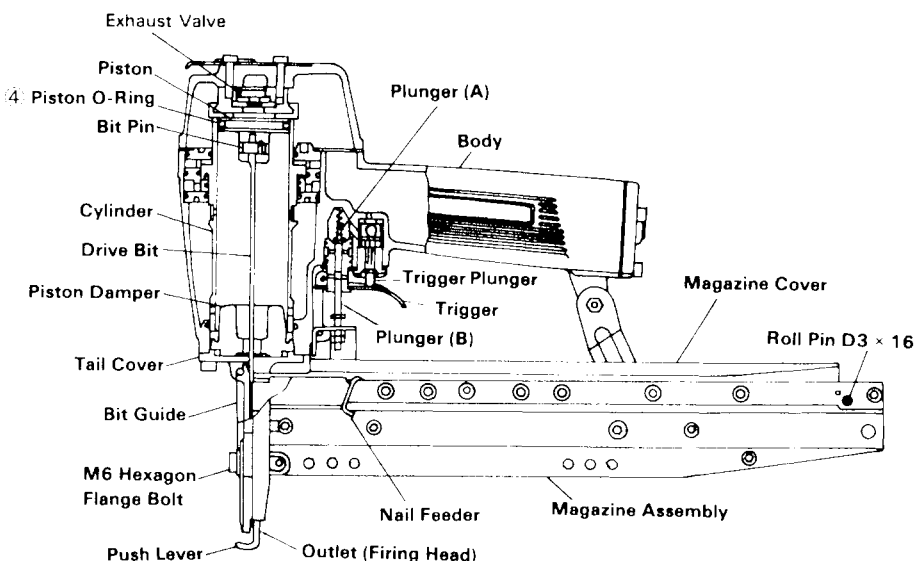

Fig. 1
- ① Safety Glasses 1
- ② Hexagon Bar wrench for M6 screw 1
- ③ Hexagon Bar wrench for M5 screw 1
- ④ Piston O-ring (spare parts) 1
- (Positions of spare parts are illustrated in Fig. 1)
- ⑤ Nose Cap 1
When depressing the nail outlet be sure to fully lift the push lever (see **Figs. 1 and 7**) to release the safety lock. Thus, nails cannot be driven without releasing the safety lock even though the trigger is pulled.